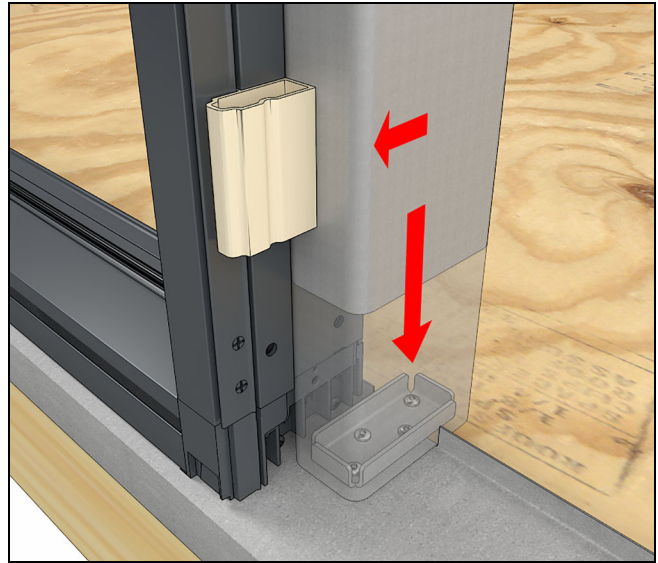

Figure 224
6. Fit the bottom of the tube steel over the flanges on the sill bracket and position the steel tight against the mull filler blocks. See Figure 224.